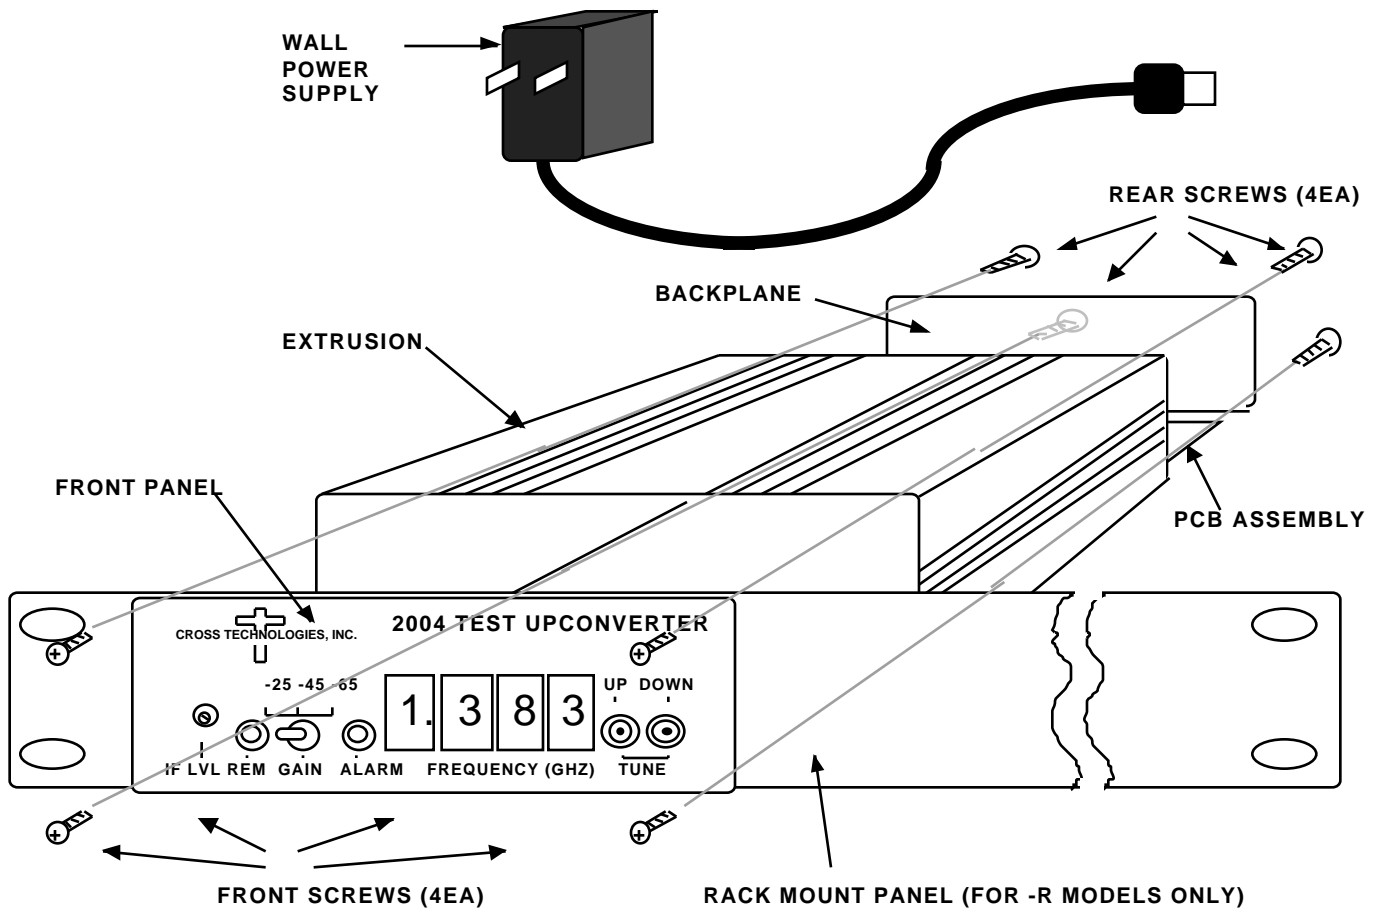

FIGURE 2.1 SERIES 2000 ASSEMBLY DRAWING
2.1 Mechanical - The 210-01 is packaged in an aluminum extrusion. The **-R option** is mounted on a 1 3/4" X 19" panel that can be mounted to a rack using the 4 holes at the ends. It derives +DC from the wall power supply (+12V unregulated). See Figure 2.1.
2.4.1 Installing and Operating the 210-01(Figures 2.1 to 2.3) -
- 3.) Connect the wall power supply to 115 VAC, 60 Hz and the power supply 2.1 mm DC connector to the 210-01 (Figure 2.1)
- 2.) Remove four (4) **rear panel screws** (see Figure 2.1).